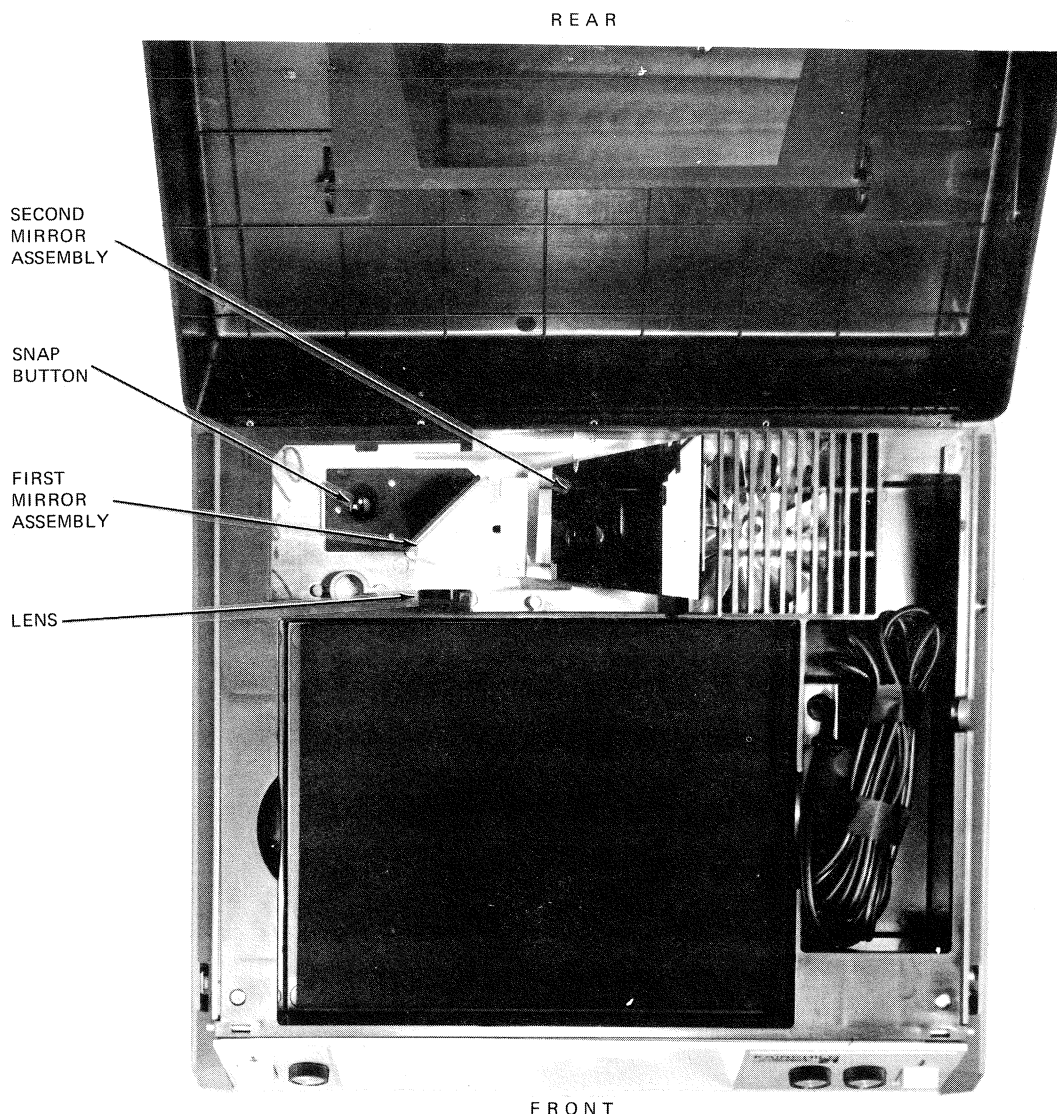

Figure 4-1. Seventy-21, Lamp Storage Door Assembly Removed
- B. If a cartridge is being stored in the storage tray, remove it. Remove lamp storage door and spare lamp, if stored. (See Figures 4-1 and 4-2) Seventy-21 only.
- A. Remove the cleaning brush stored in the line cord storage compartment (see figure 4-1). Clean the aperture area of the cartridge by inserting the brush into the cartridge well and brushing lightly.